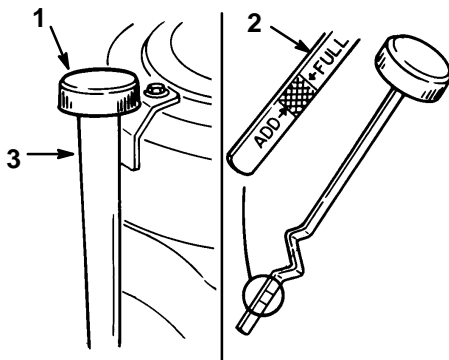

Figure 23
2. Clean around the oil dipstick (Fig. 23) so dirt cannot fall into the filler hole and damage the engine.
3. Unscrew the oil dipstick and wipe the metal end clean (Fig. 23).
4. Slide the oil dipstick fully into the filler tube, do not thread onto tube (Fig. 23). Pull the dipstick out and look at the metal end. If oil level is low, slowly pour only enough oil into the filler tube to raise the level to the "FULL" mark.
5. Slowly pour approximately 80% of the specified amount of oil specified, page 25, into the filler tube (Fig. 23). Now check the oil level; refer to Checking Oil Level, page 26. Slowly add additional oil to bring to "FULL" mark on dipstick.